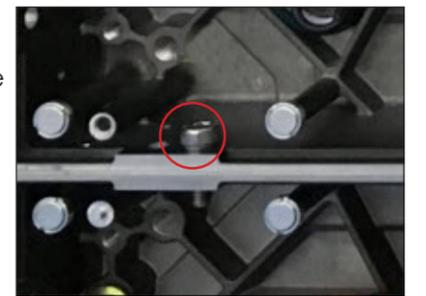

**Figure 26:** Verify Flatness
- Verify flatness by laying a 4' level across the face to ensure the combined face of both panels is straight and flat. Check both ends of the panel. Refer to **Figure 26**.